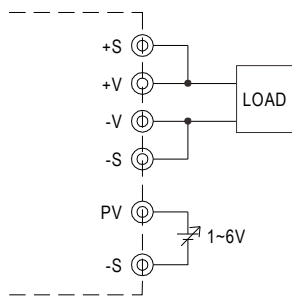

Fig. 3.1 Add on 1-6V external voltage
- (1) PV(PIN3) and PS(PIN4) of CN1 or CN2 must be disconnected if "Output Voltage TRIM" function is used. Otherwise, the internal electrical components may be damaged, and the power supply unit may thus be out of order.
- (2) Connecting an external DC source between PV & -S on CN1 or CN2, and +S & +V, -S & -V also need to be connected that is shown in Fig. 3.1.